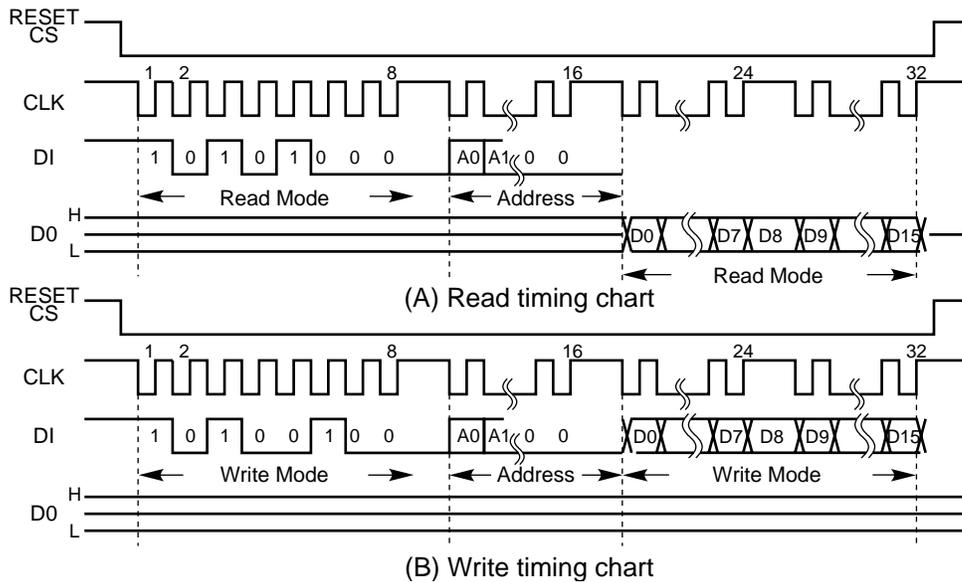

Fig. 3-13 Nonvolatile memory timing chart
When the power on (AC ON), the system microprocessor QA01 reads out all adjustment data with the timing shown in Fig. 3-13 (A) 'Read timing chart' to store the previous status. When writing the adjustment data, the system microprocessor QA01 writes all adjustment data by the write processing with the timing shown in Fig. 3-13 (B) 'Write timing chart' to store the current status.